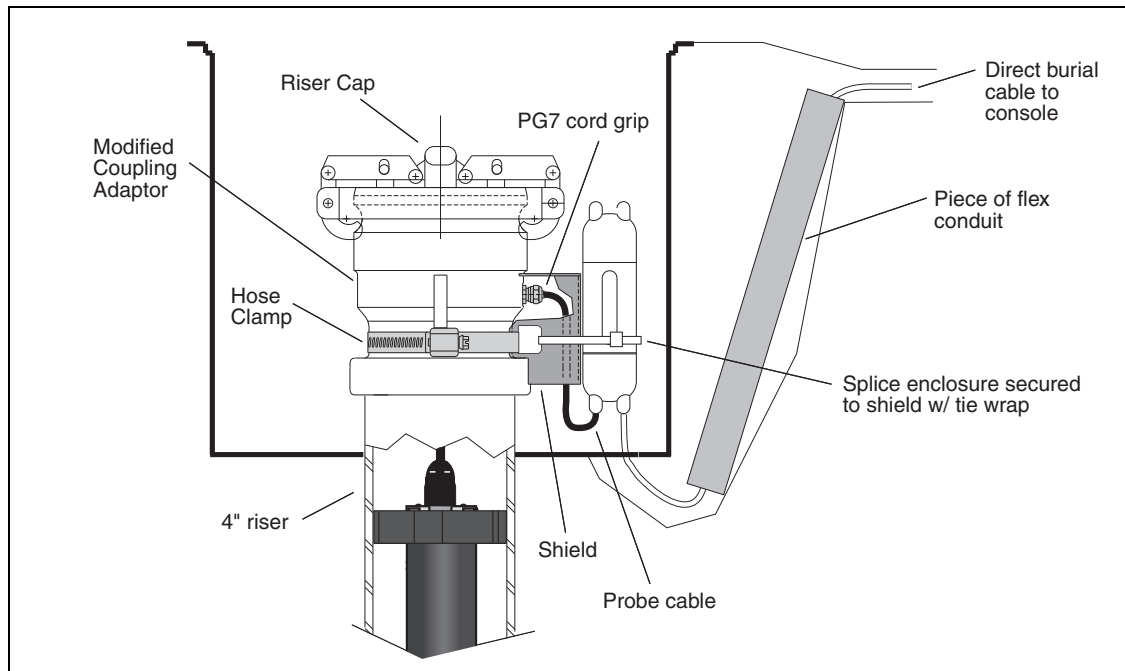

Figure 20. Mag Probe Vapor Extractor Riser Installation - W/Coupling Adaptor
12. Position the Shield-Fitting over the PG7 cord grip and secure with the hose clamp (see Figure 20 on page 29).